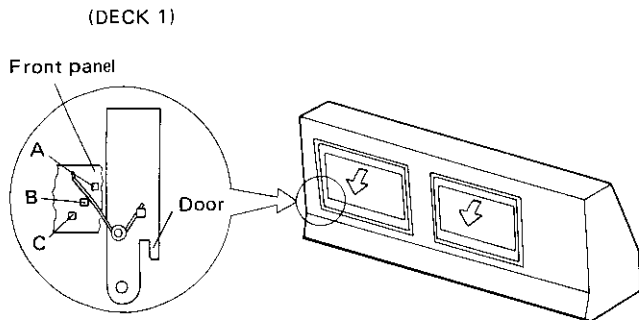
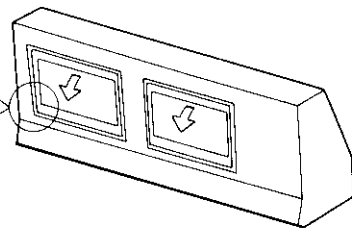

Fig. 11-2
Fig. 11-1
Set the door spring of DECK 1 side to position (B) as shown in Fig. 11-2. Then, erect the front panel A Assembly vertically as shown in Fig. 11-1. Open the doors of DECK 1 and DECK 2 at the same time. At this point, confirm that the difference between opening degree of both doors is within 17mm when one side of the door is opened completely. When this standard is not satisfied, change the door spring installation position of Deck 1 and perform the adjustment as follows:
- When the opening action of the door of DECK 1 is later than that of DECK 2: Change (B) in Fig. 11-2 to that in (A).
- When the opening action of the door of DECK 1 is faster than that of DECK 2: Change (B) in Fig. 11-2 to that in (C).